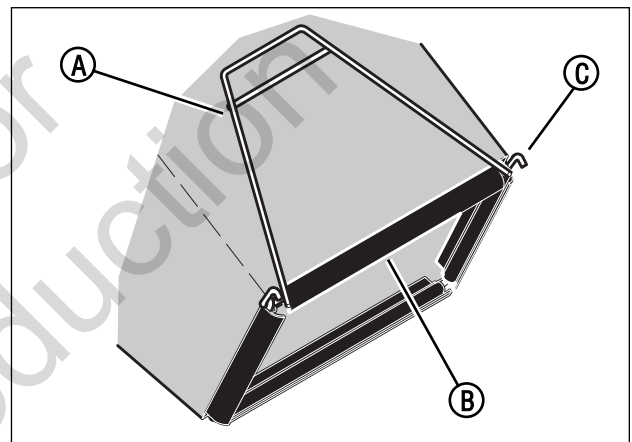

Figure 8: Installing the bag clips
2. Make sure the handle **(A, Figure 8)** is on the outside of the grass bag.
3. First, attach the clips **(B, Figure 8)** to the side of the frame assembly **(C)**. Next, attach the clips to the top and bottom of the frame assembly.